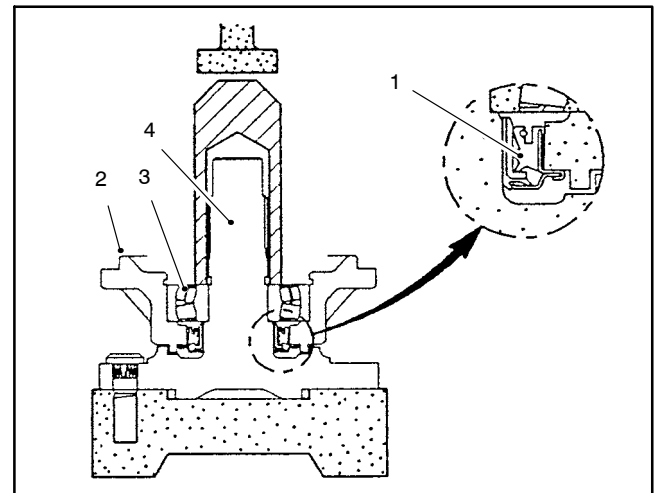

Figure 27
1. Coat new axle shaft seal with grease and install in axle cover as shown (Fig. 27).
2. Press the axle cover and bearing assembly onto the axle shaft. Press only on the inner race of the cover bearing (Fig. 27).